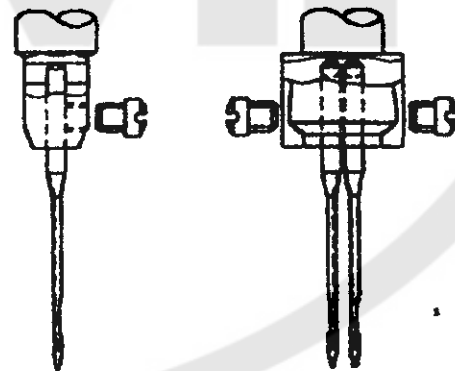

Fig. 1
5. How to Attach Needle (Fig.1):